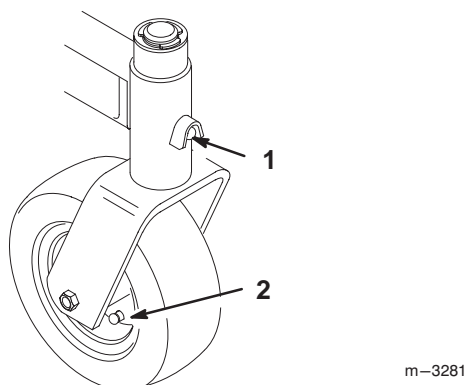

Figure 34
4. Grease the fittings on the carrier frame mounting tubes and castor wheels (Fig. 34).